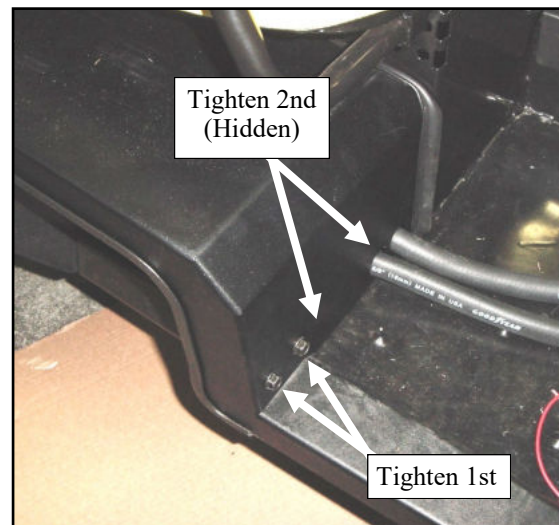

Fig. 10.1 (view of air intake cover)
10.1 Install the filler on passenger's side as shown in figure 10.1. Loosely fasten to the rear panel using the hardware listed below.